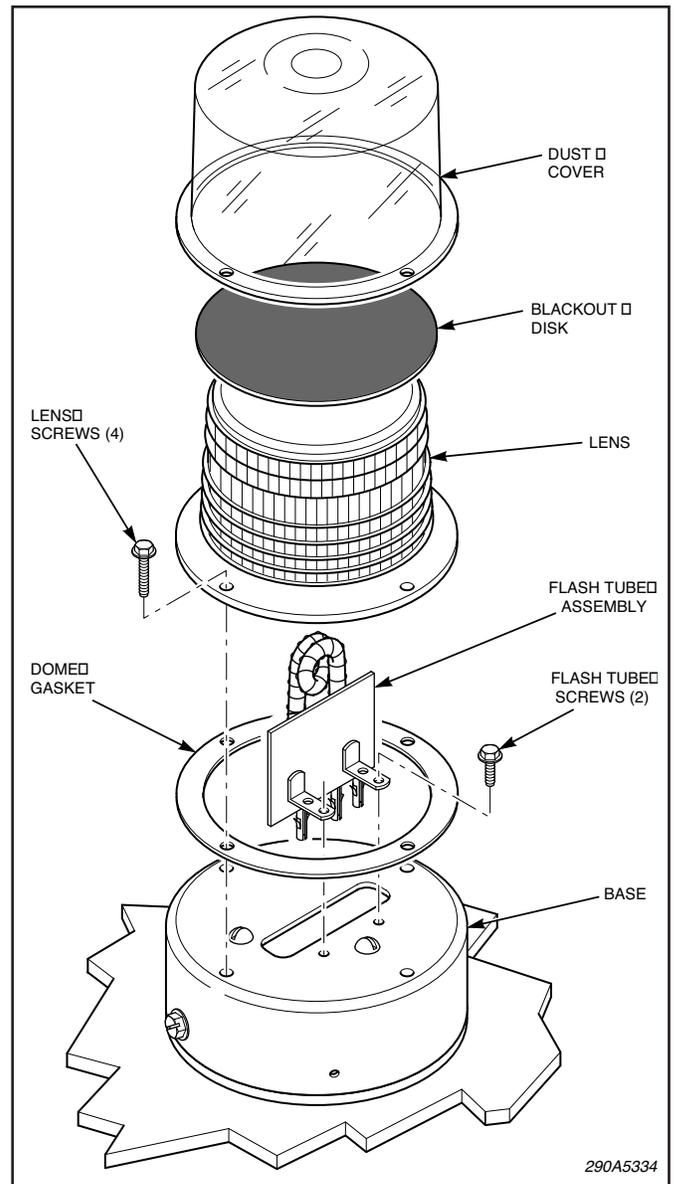

Figure 1.
See Figure 1 and proceed as follows:
D. Grasp the flash tube by its printed circuit board and pull it off of the pins, using a gentle rocking motion. See Figure 1. Install a new flash tube. Secure the flash tube assembly to the base using the previously removed screw. Ensure that the Dome Gasket rests flat on the base (see Figure 1) and reassemble the light.